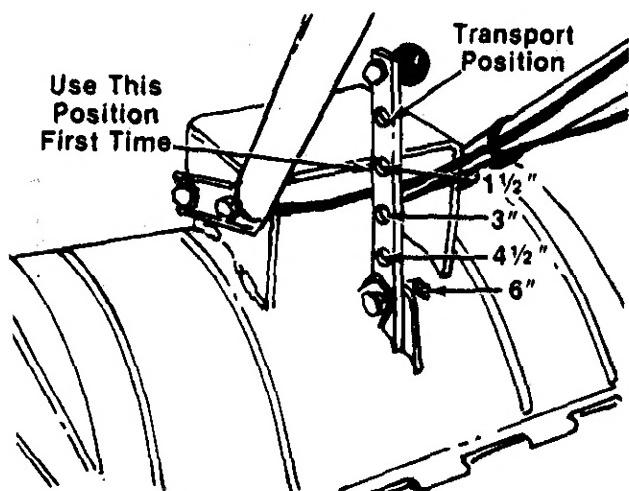
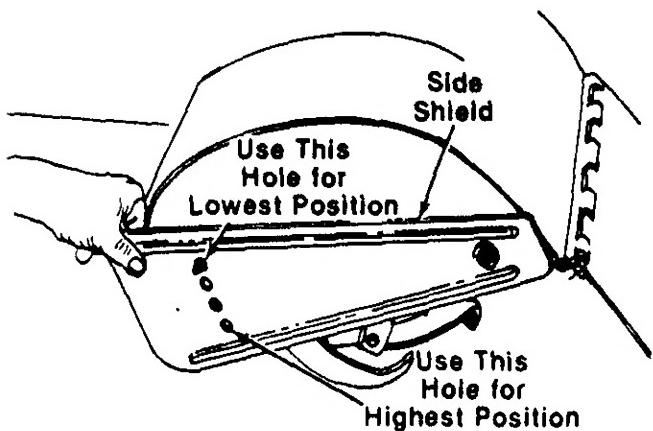

FIGURE 15.
FIGURE 16.
When operating the tiller for the first time, use the depth bar setting that gives  $1\frac{1}{2}$  inches of tilling depth (second hole from the top). Refer to figure 15. Use slow speed only.
Tilling depth is controlled by the depth bar which can be adjusted to five different settings. See figure 15. Adjust the side shields as shown in figure 16, as you adjust the depth bar. Be certain spark plug wire is disconnected and grounded against the engine.
1. When using the tiller for the first time, use the second adjustment hole from the top ( $1\frac{1}{2}$ " of tilling depth). See figure 15.
To adjust the depth bar, remove the clevis pin and hairpin cotter. See figure 15. Move the depth bar to the desired setting.
To adjust the side shields, remove the hex nut and belleville washer from the front and loosen the rear nut. See figure 16. Pivot the side shield to the desired position. Replace hex nut and belleville washer. Tighten securely.